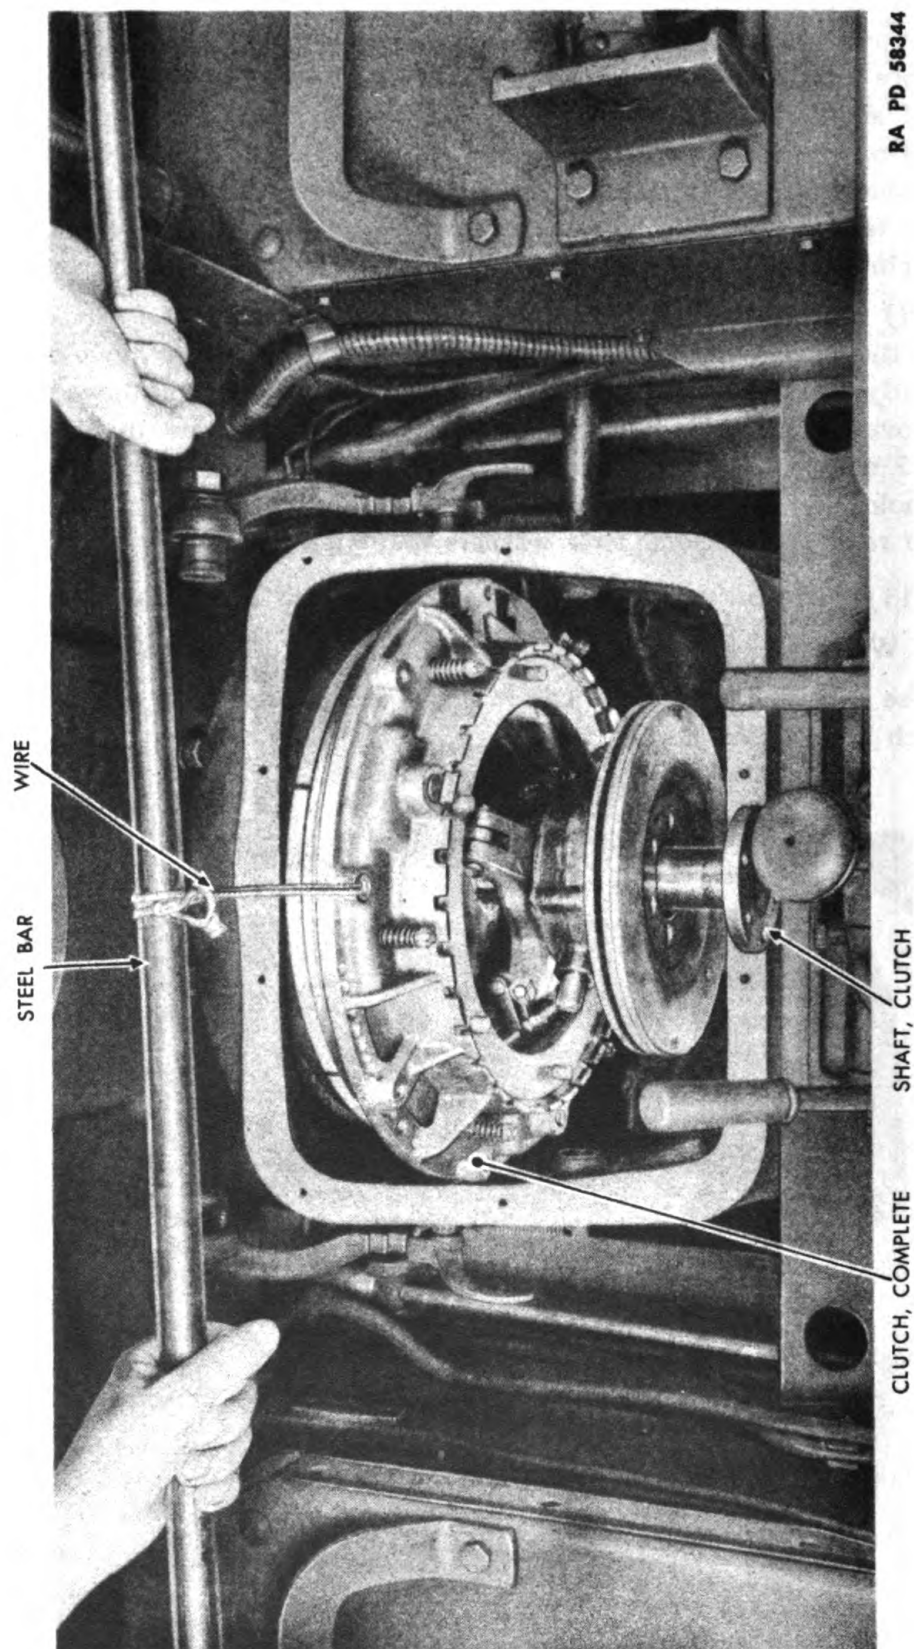

Figure 16 — Engine Clutch Assembly Removal
(14) REMOVE ENGINE CLUTCH, COMPLETE (fig. 16).